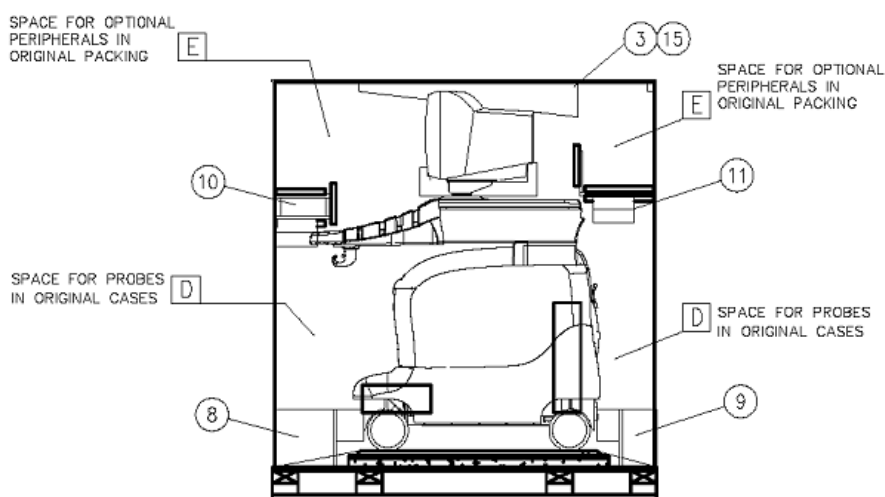
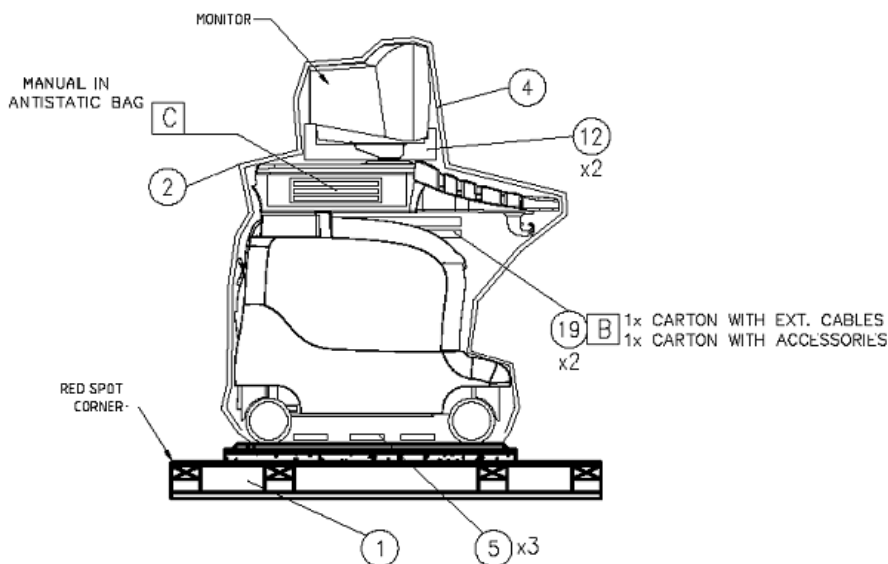

Figure 3-3 Probes and Peripherals in Original Packaging
Figure 3-4 Antistatic Cover, Supports and Accessories
- 1) Cut and remove the three securing steel strips (item 16).
- 2) Release the eight Clip-lok™ clips (item 15) securing the front wall (item 13) and remove the front wall. (Refer to the procedure described in Section 3-3-1-1 on page 3-4).
- 3) Release the eight Clip-lok™ clips securing the back wall (item 14) and remove the back wall.
- 4) Remove the small cartons containing the probes and peripheral options (items D and E in Figure 3-3 below) from the wooden crate.
- 5) Remove the console control support back foam (item 11 in Figure 3-3, above).
- 6) Remove the keyboard support foam located in front of the keyboard (item 10 in Figure 3-3, above).
- 7) Remove the back support foam located in front of the rear wheels (item 9 in Figure 3-3, above).
- 9) Remove the *right* wall (item 6) and the *left* wall (item 7) by opening the three clips fastening each to the base.
- 10) Cut and remove the antistatic sheet (item 2 in Figure 3-4 below) that is wrapped around the unit, taking care not to damage the antistatic cover.
- 11) Remove the antistatic cover (item 4 in Figure 3-4).
- 12) Remove the two monitor foam supports (item 12 in Figure 3-4), located one on each side of the monitor.
- 13) Remove the three silica gel (moisture absorbing) bags (item 5 in Figure 3-4, above) located under the unit.